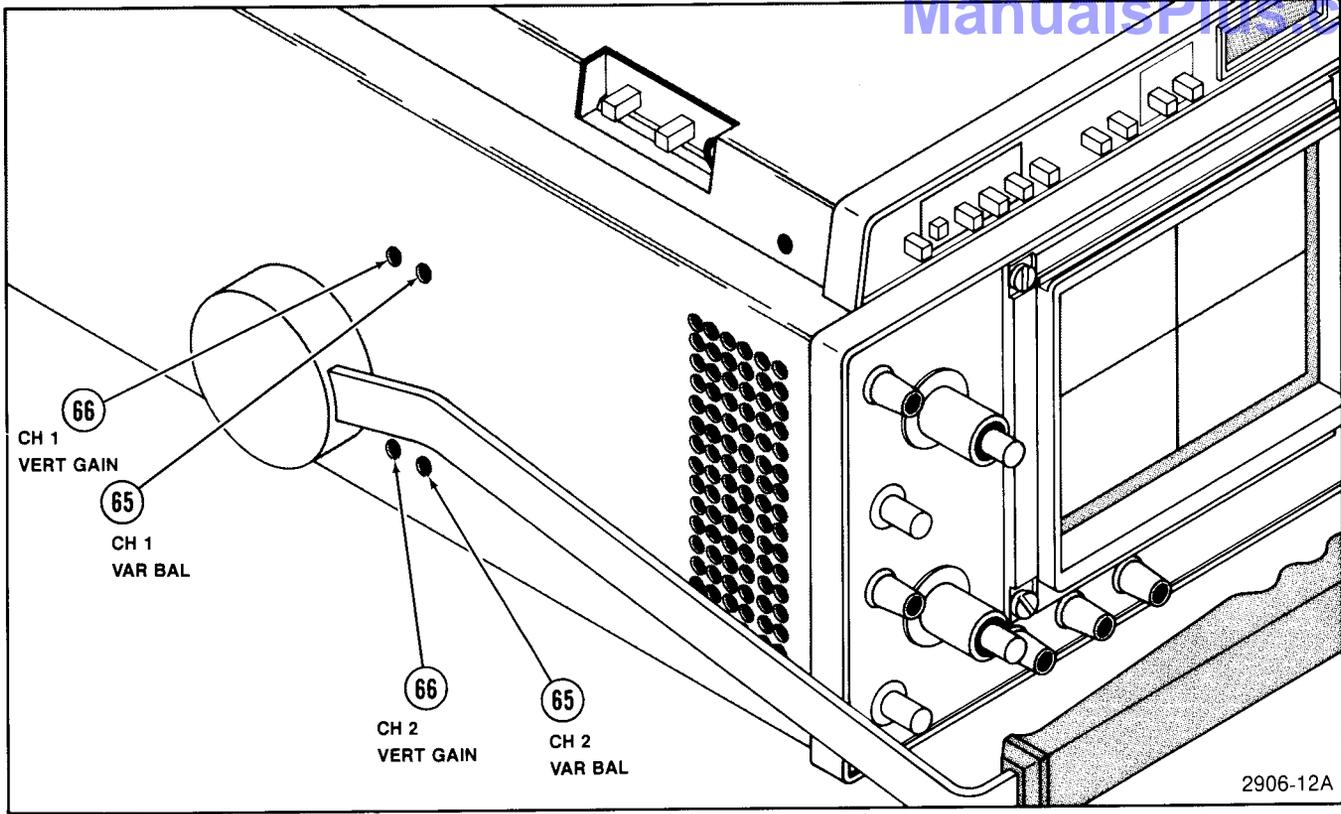

Figure 12. Left side panel controls.
Refer to Figure 12 for location of items 65 and 66 (upper set of holes is CH 1, Lower set is CH 2).
- ⑥5 **Variable Balance Controls (accessible through left side panel)**—Screwdriver adjustments to set balance of each vertical channel.
- ⑥6 **Vertical Gain Controls (accessible through left side panel)**—Screwdriver adjustments to set the gain of each vertical channel.